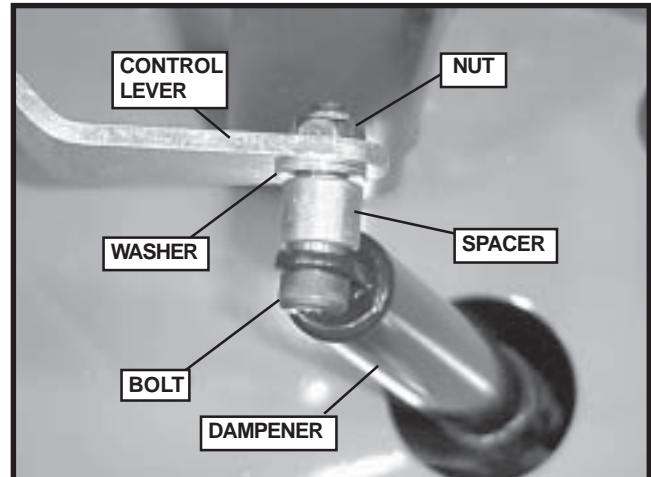

FIGURE 13
1. Using a 7/16" open end wrench and a 5/32" hex allen wrench, reinstall the new dampener to the control bracket on the top side. Repeat on other side. See Figure 13.